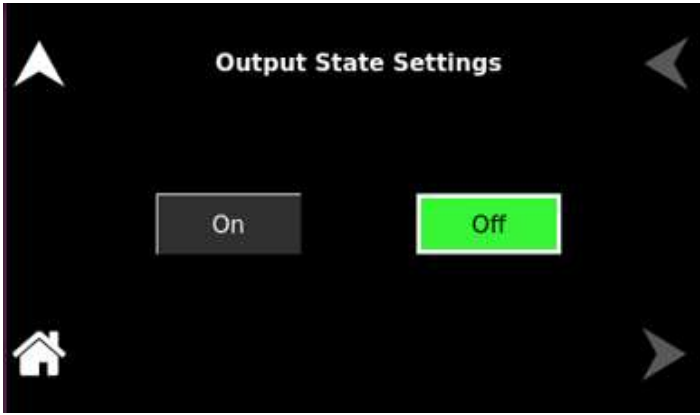

Figure 9-40. Output State Settings
**Output State** Users can program the output to ON or OFF state. Refer to Figure 9-40.